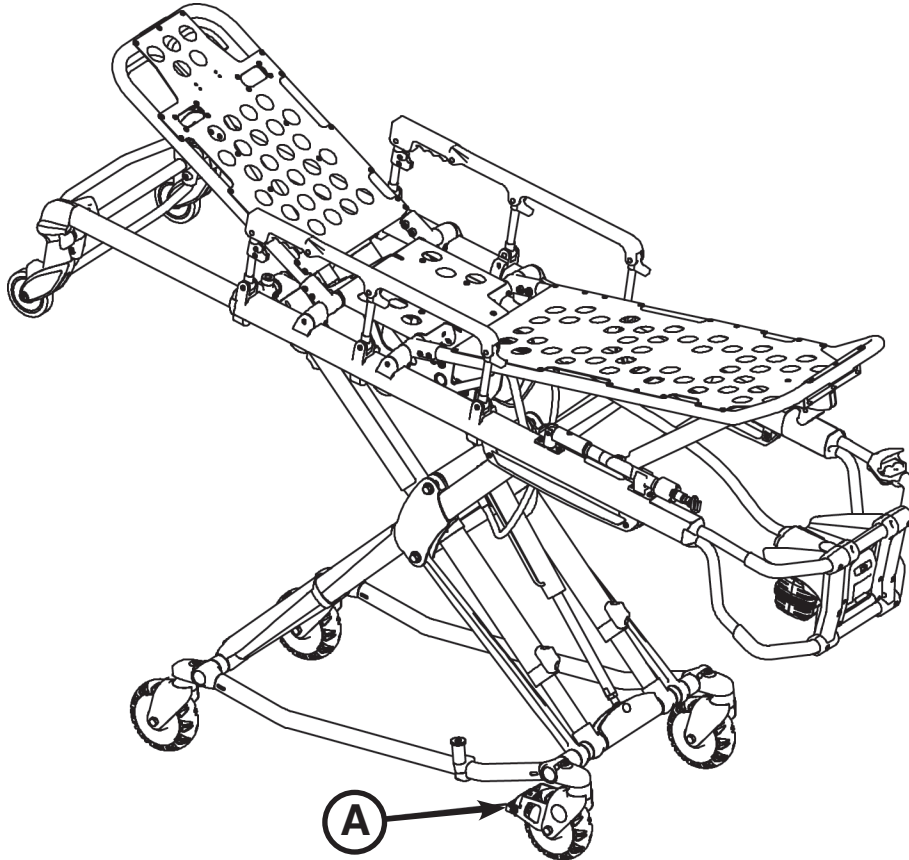

Figure 54: Wheel Lock
To activate the optional wheel lock(s), press fully down on the pedal (A) as shown in Figure 54 until it stops and is resting firmly against the surface of the wheel.